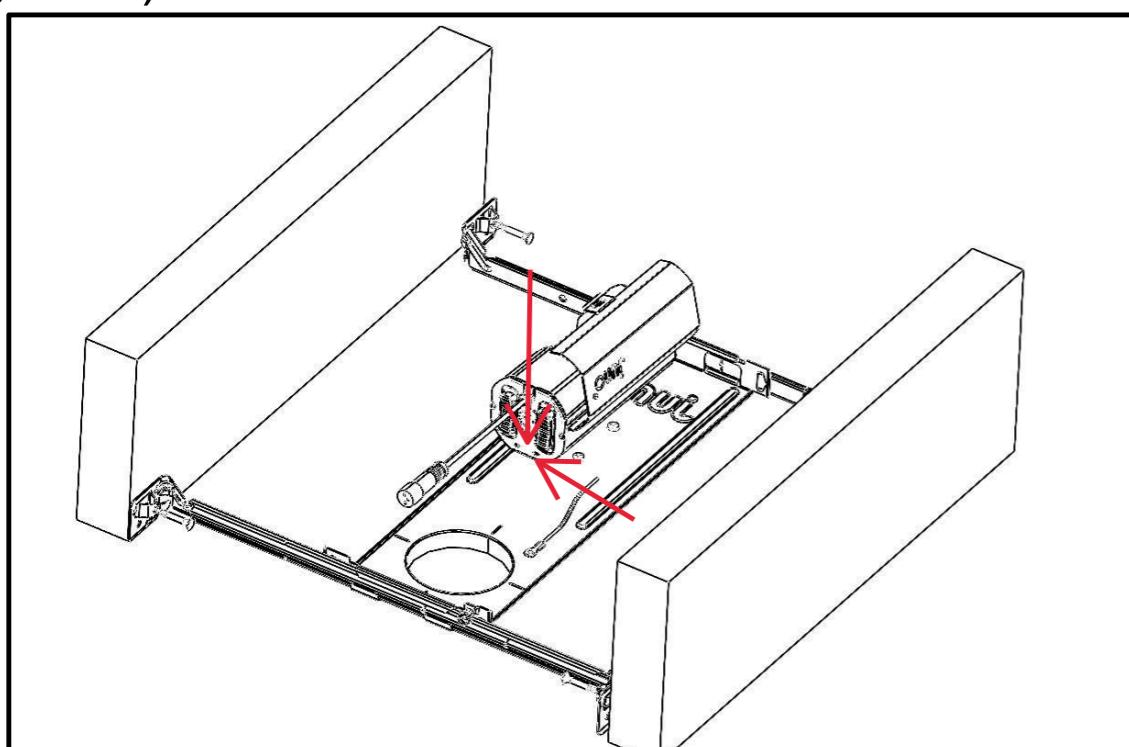

Figure 4
3. Attach the wafer junction box to the frame by aligning the keyhole slots on the remote driver box with the screws on the frame and sliding the box down to secure. See fixture installation instruction sheet for wiring method. (See Figure 4).